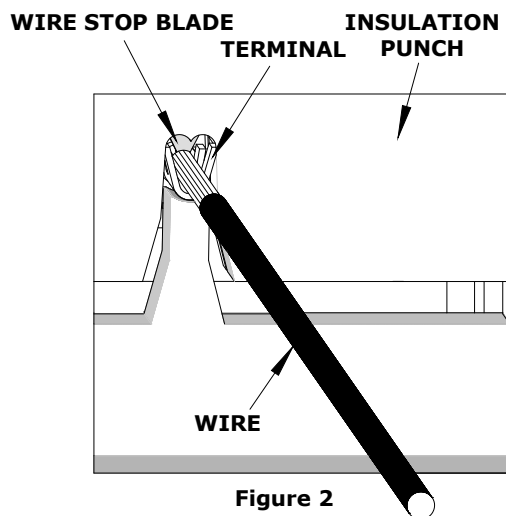

Figure 2
5. Slide the pre-stripped wire into the terminal, making sure to aim the wire brush toward the tip point on the wire stop blade. See Figure 2. Align the wire so that it is parallel and resting in the terminal. Maintain a light and constant pressure on the wire against the wire stop blade (do not let go of the wire).